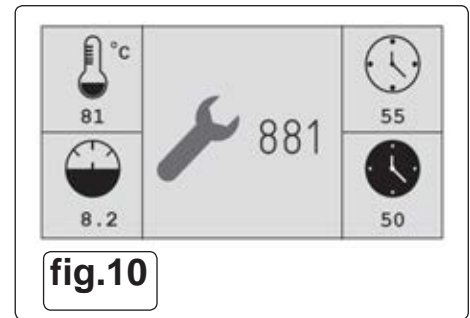

fig.10
6.3.2. **Remaining hours to maintenance (fig.10).**